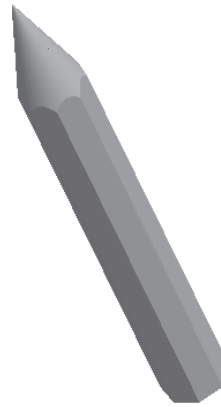

Figure 8-105 Model after creating the tip
5. Choose the **Build feature** button to complete the feature. The default trimetric view of the model after creating the fourth feature is shown in Figure 8-105.